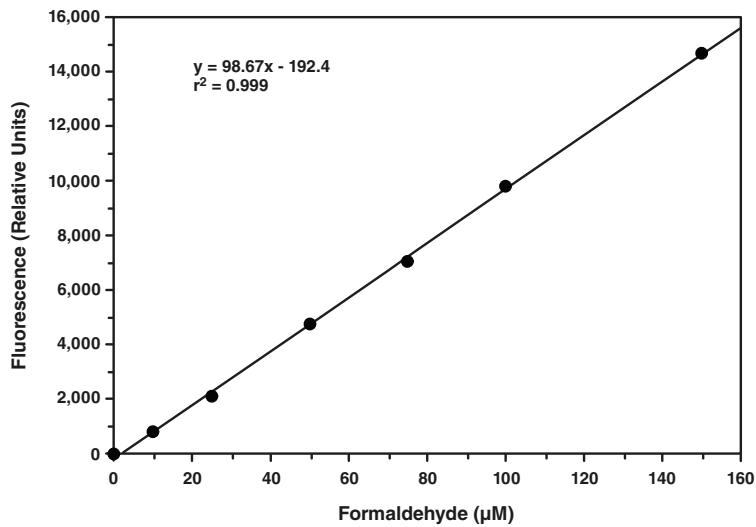

Figure 3. Formaldehyde standard curve
3. Plot the corrected fluorescence values (from step 2 above) of each standard as a function of the final formaldehyde concentration (µM) from Table 1. See Figure 3, on page 16, for a typical standard curve.